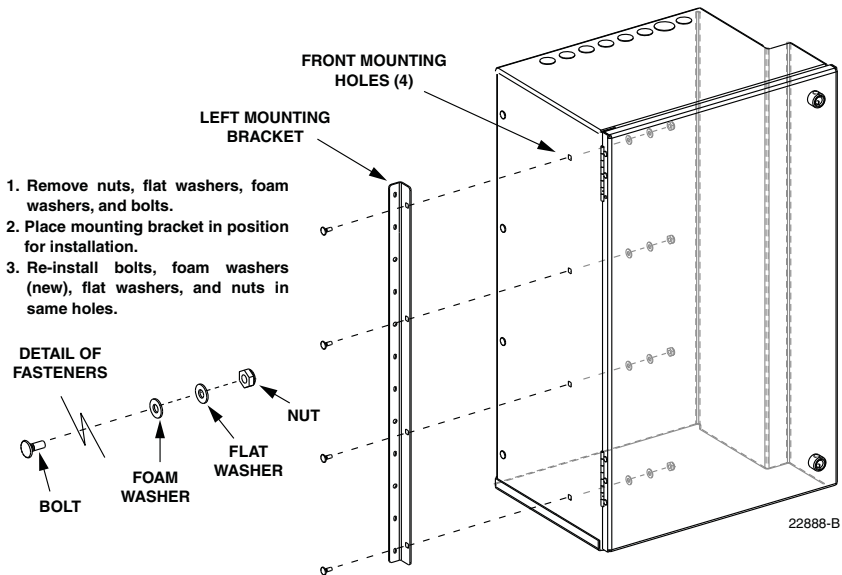

Figure 4. Install Left Mounting Bracket in Left-Front Mounting Position
5. Remove the nuts, flat washers, foam washers, and carriage bolts (four of each) from the four holes located on the **left-front** side of the cabinet as shown in Figure 4.
6. Using the carriage bolts, foam washers, flat washers, and nuts removed in step 5, install the left mounting bracket on the **left-front** side of the cabinet (see Figure 4). Tighten nuts securely.